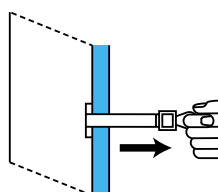

Fig. 3
- 7 With the plastic pull ring of the toggle bolt, pull the metal end of the toggle bolt firmly against the back of the cavity of the concrete block (refer to Figure 3).